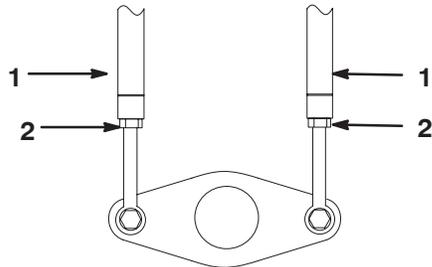

Figure 25
3. Loosen the jam nuts on the traction rods, under the control panel (Fig. 25).